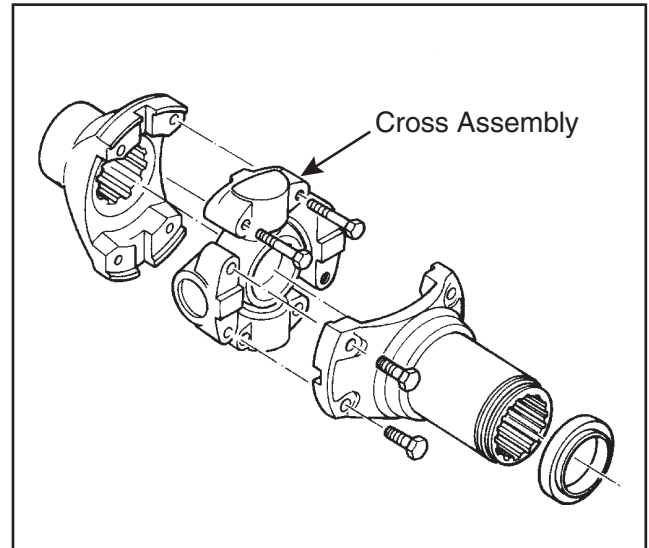

Figure 3 - Cross Assembly
2. Loosen and remove the four capscrews retaining the cross assembly cross to the slip yoke (see Figure 3).
2. Install the capscrews (see Figure 3).
3. Install the capscrews (see Figure 3).
6. Install the capscrews (see Figure 3).